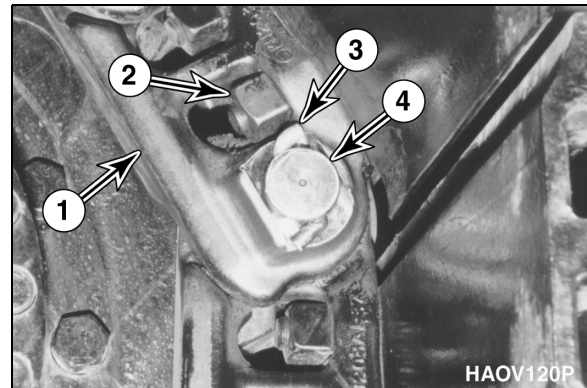

Figure 13
3. Move machine until master link (1, Figure 13) is positioned at approximately 10 o'clock from top position on travel reduction gearbox.
4. Remove four nuts and bolts (2, Figure 13) holding shoe to link. Remove enough shoes to make access to lock pin easier.
**NOTE:** *Support track shoes with blocking so that when master pin (4, Figure 13) is removed track will not fall.*
5. Straighten lock pin (3, Figure 13) and remove it from master pin (4). Discard lock pin.